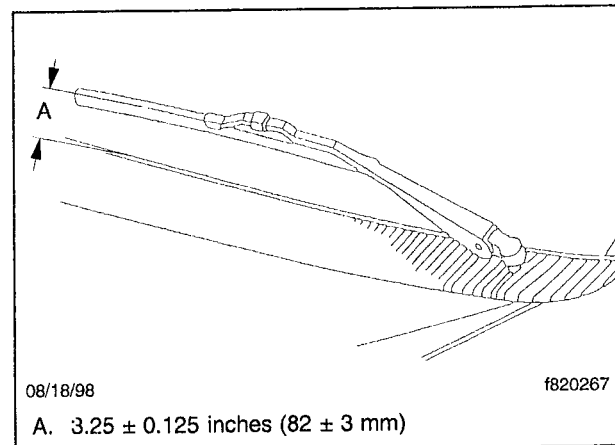

Fig. 9, Driver-Side Windshield Blade Park Dimension
- 15.3 Verify that the distance between the center of the driver-side windshield wiper blade and the cowl top vent panel is within 3.25 ± 0.125 inches (82 ± 3 mm). See **Fig. 9**.